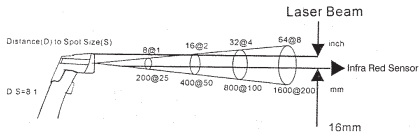

Figure 1 (310016)
As the distance (D) from the object increases, the spot size (S) of the area measured by meter becomes larger (see fig. 1 & 2).